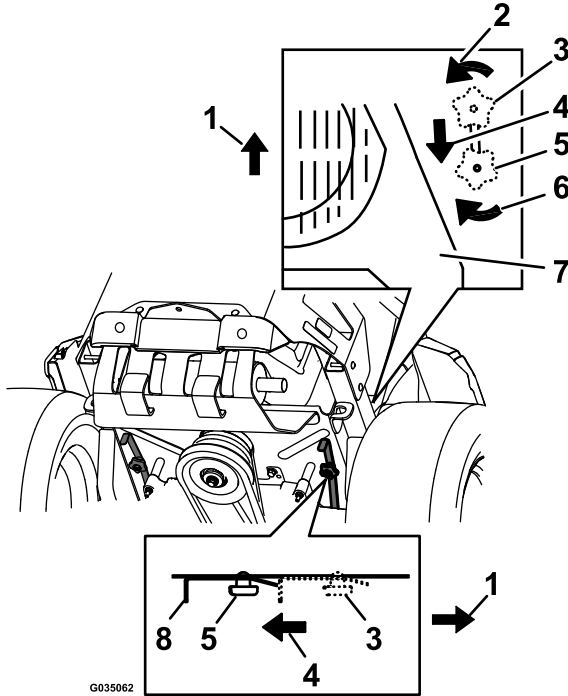

Figure 34
3. To push the machine, move both bypass knobs rearward and lock them into place (Figure 34).
5. To run the machine, move the bypass knobs to the FORWARD position and lock them into place (Figure 34).